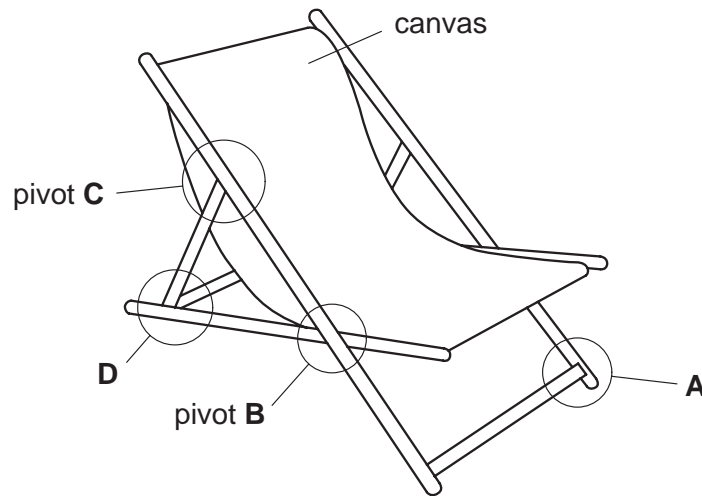

Fig. 7
- 7 Fig. 7 shows a folding chair which is to be used outside. The frame of the chair is made of wood with a cross-section of 50 mm × 25 mm.